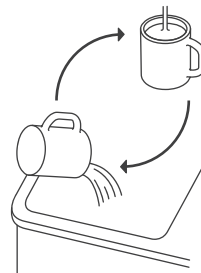

Fig. 6
7. Once the brewing is done, remove the mug and pour the hot water into the sink. Discard the hot water and repeat cleansing by repeating the brewing cycle at least two (2) more times. (Fig. 6)